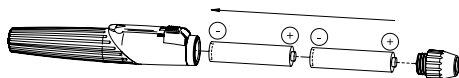

Fig. 3
To set up, unscrew the head piece (3) from the handle (1) and insert two alkaline primary cells (size LR03 | AAA | 1.5V) (Fig. 3). Then screw the head piece back on.
Unscrew the head piece (3) and shake out the batteries. Insert new batteries with the plus contact facing the handle head (Fig. 3). Then screw the head piece back on.